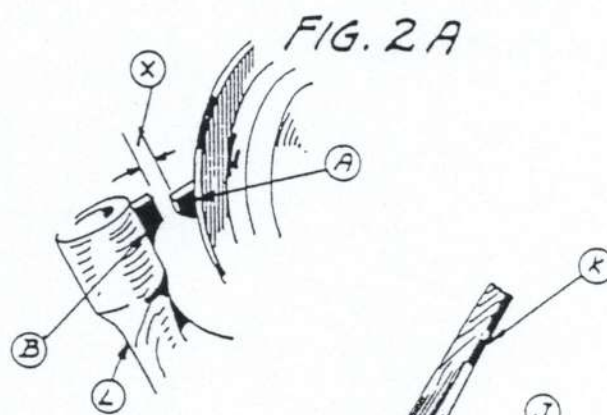

FIG. 2A
(EN ESTE PUNTO, EL FIADOR (A) Y EL PERNO (B) DE TOPE (FIG. 2A), SE ENCUENTRAN COMO A $\frac{1}{8}$ " (3.1 MM.) DE DISTANCIA EN (X).